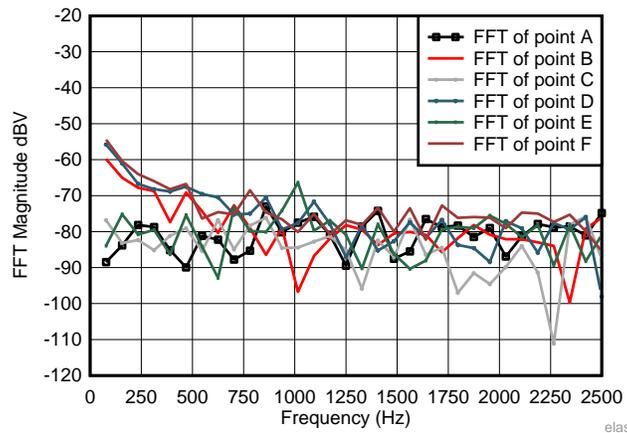

Figure 97. FFT of Different Points on Repeatability Waveform
- b. The Figure 97 shows the FFT of the data on different points sampled at PRF.